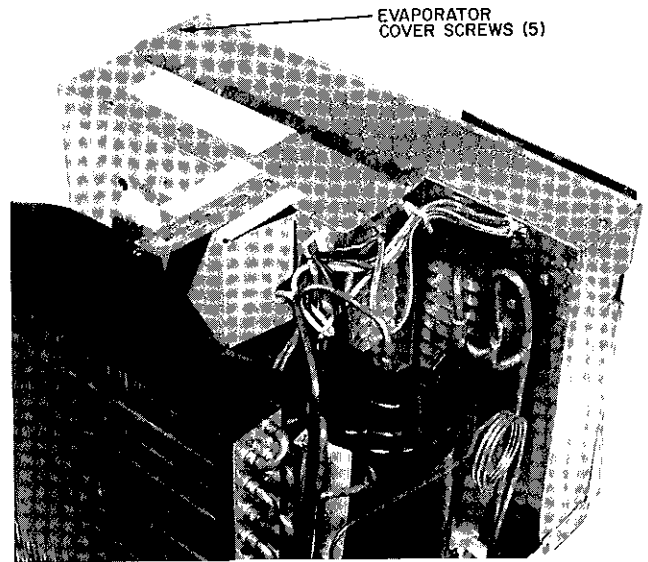

Fig. 7 — Evaporator Cover Screws
- 6 **Evaporator Cover** — Remove evaporator by removing 5 screws as shown in Fig 7